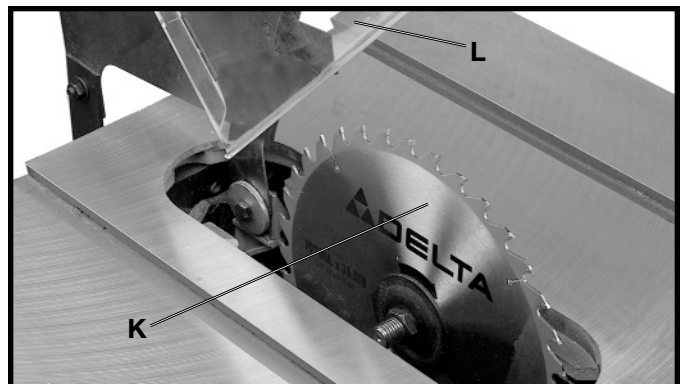

Fig. 36
10. With the blade guard (L) Fig. 36, in the raised position, assemble the saw blade (K) on the saw arbor with two arbor wrenches supplied.